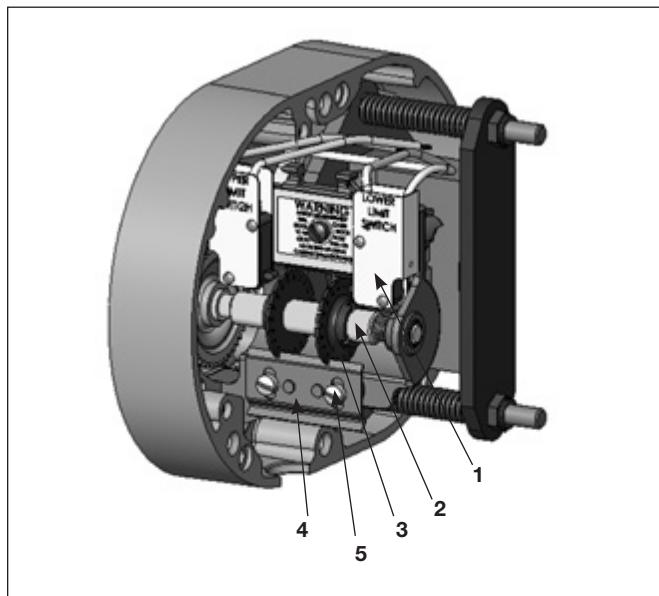
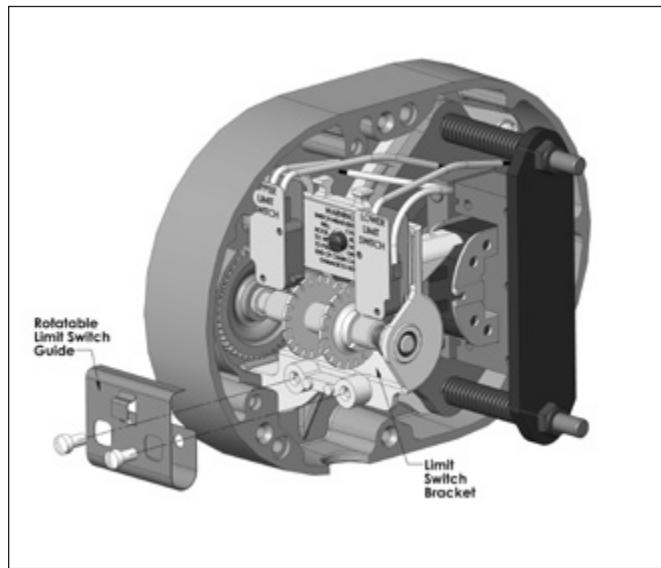

Figure 16. Limit Switches, Models A thru H-2
Figure 16a. Rotatable Limit Switch, Models A thru H-2
4. Loosen the screws to permit guide plate to be moved out of engagement with the traveling nuts, refer to Figures 16 and 17. For Rotatable Limit Switch, slightly pull out on the guide spring, disengaging the travel nut, refer to figure 16A and 17A.